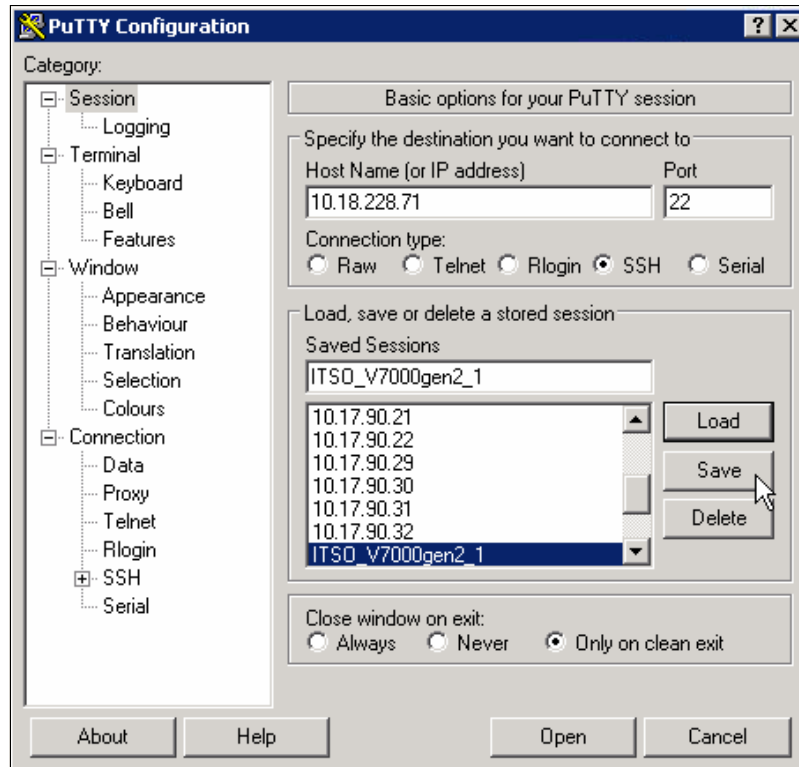

Figure 8-12 Saving a session
- In the Category pane, click **Session** to return to the Basic options for your PuTTY session view (Figure 8-12 on page 154).
- Enter the following information in the fields (Figure 8-12 on page 154) in the right pane:
9. Click **Save** to save the new session (Figure 8-12).